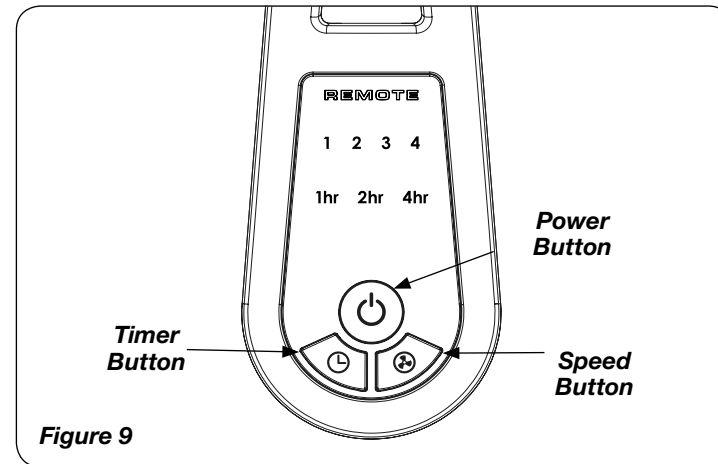
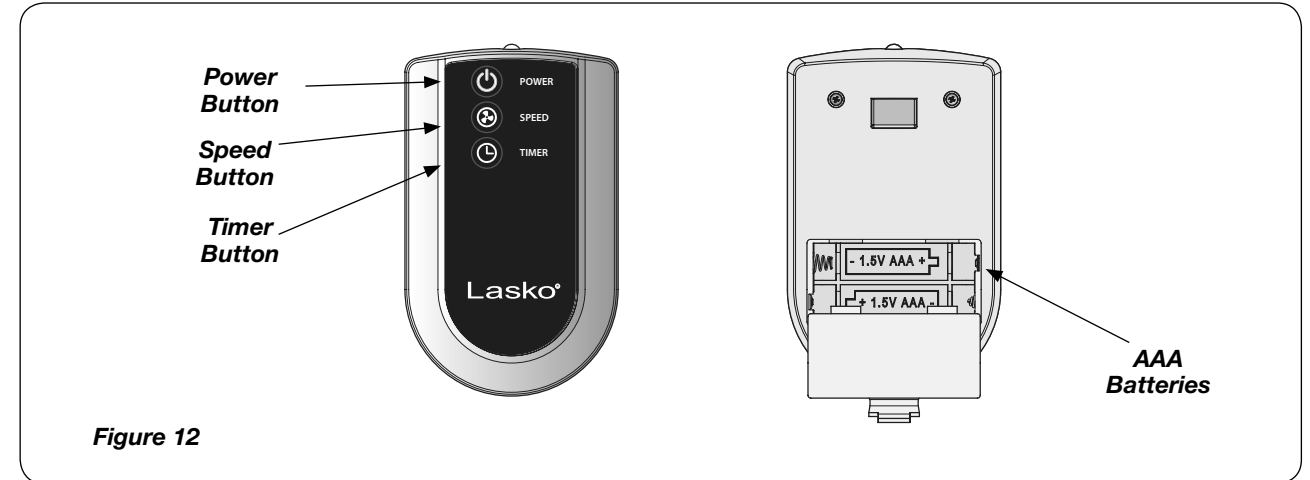

Figure 9
Figure 12
This Fan may be operated by the Manual Controls located on front of the unit (as shown in Figure 9) or by the Remote Control (shown in Figure 12).
1. Install batteries (not included) as shown in *Figure 12*. The battery is type “AAA”.